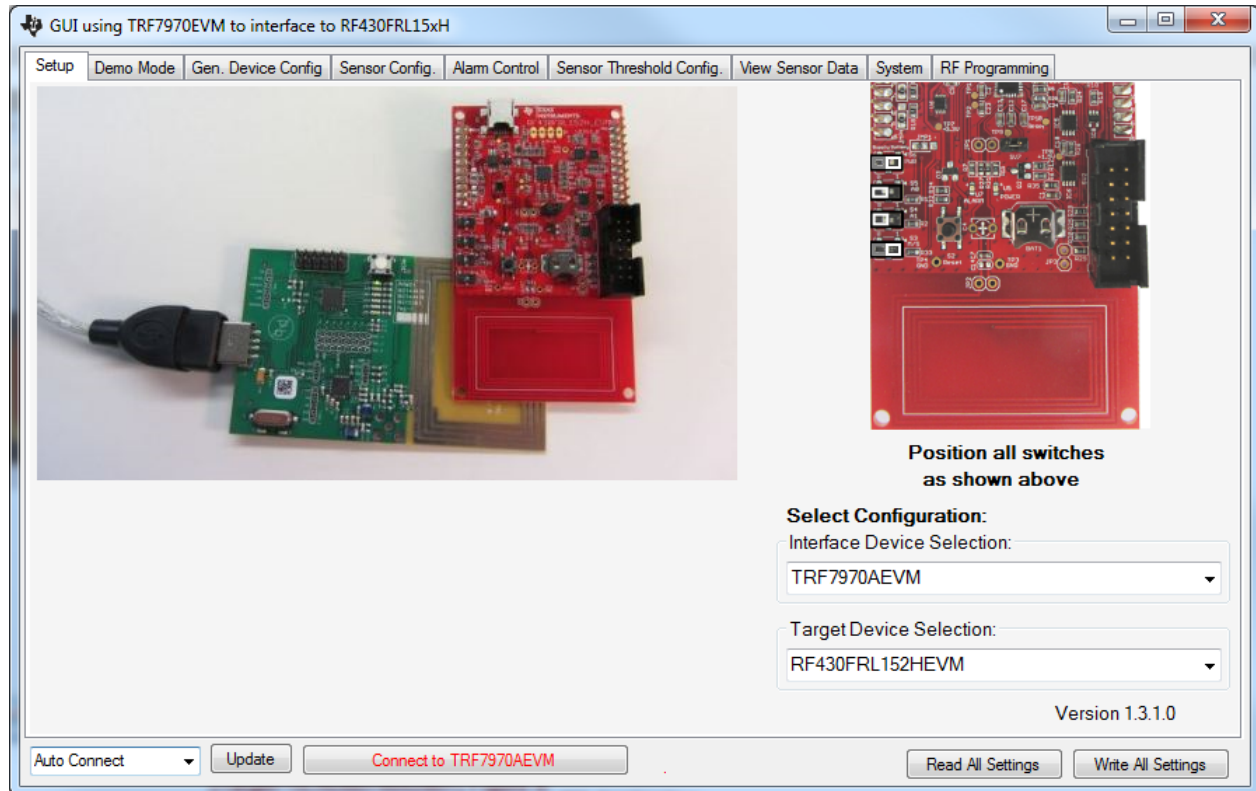

Figure 9. Setup Tab
3. If the RF430FRL152HEVM is selected, an option to select whether or not a Sensor Hub BoosterPack plug-in module is being used is presented. Make the selection (see Figure 9).